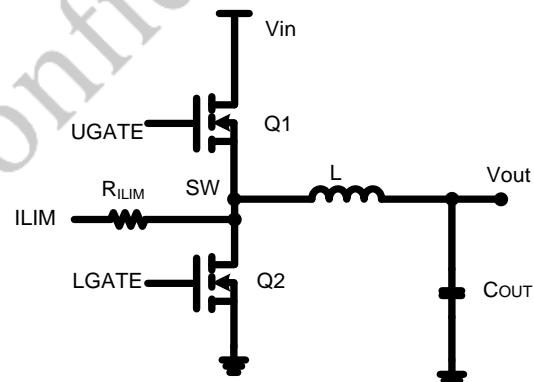
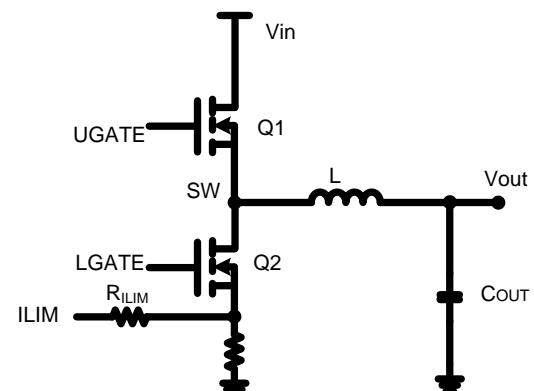

Figure15. MOSFET R_{DSOn} Current Sensing
Figure16. Shunt Resistor Current Sensing
JWH6346 has a cycle-by-cycle overcurrent limiting control. A valley current limit is designed in the JWH6346 so that only when output current drops below the valley current limit can the high-side MOSFET be turned on. To provide both good accuracy and cost effective solution, the JWH6346 supports temperature compensated MOSFET R_{DSON} sensing mode and shunt resistor sensing mode, and it detects the appropriate mode at start-up and sets the source current amplitude and temperature coefficient (TC) accordingly. Figure15 portrays the R_{DSON} sensing mode which resistor R_{ILIM} is tied to SW to use the R_{DSON} of the low-side MOSFET as a sensing element (termed R_{DSON} mode) and Figure16 shows the shunt resistor sensing mode which R_{ILIM} is tied to a shunt resistor connected at the source of the low-side MOSFET (termed R_{SENSE} mode).